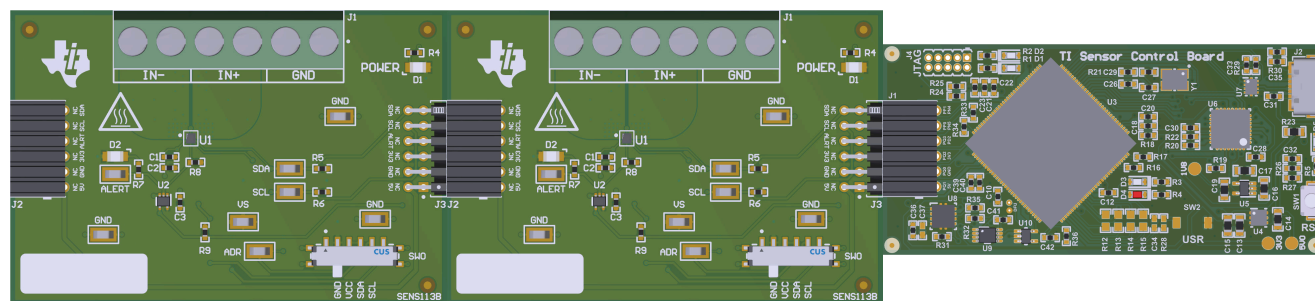

Figure 2-2. Multiple EVMs Connected to SCB Controller
- a. Refer to Figure 2-2 when connecting multiple EVMs of the same type together.
If using multiple EVMs, connect them as shown in Figure 2-2. Make sure to use a different address for each device. The GUI only supports one EVM and device type at a time; up to four EVMs total.